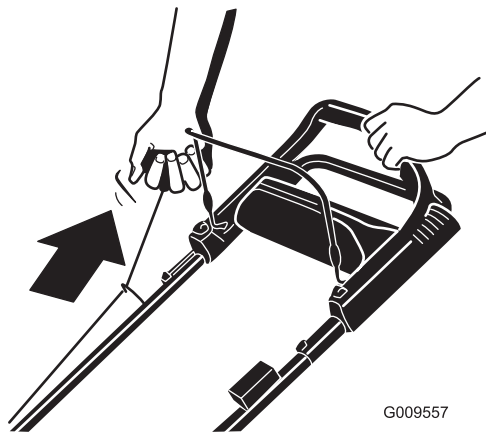

Figure 12
**Note:** You can start the engine either from the operating position (Figure 12) or at the engine (with the recoil-start handle out of the rope guide).